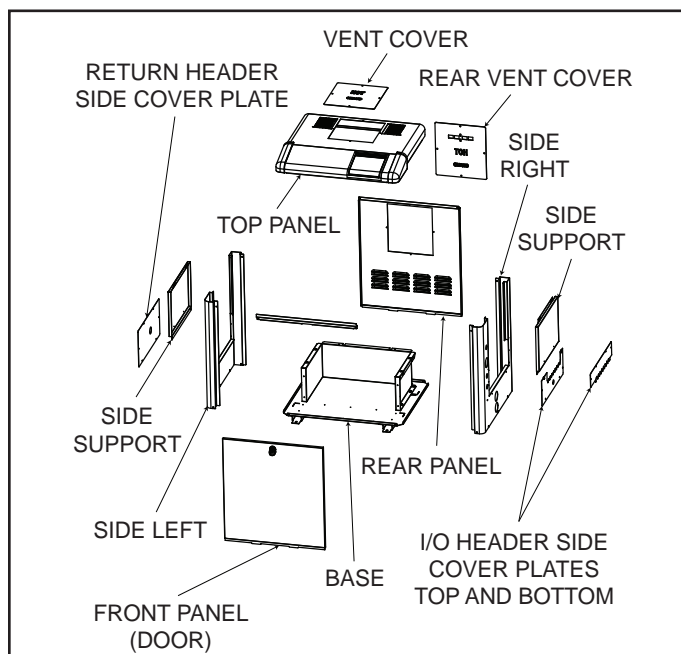

Figure 13. LXI Panel Identification
1. For an existing installation, drain the heater by removing the two (2) drain plugs on the inlet/outlet header and the drain plug on the return header.
3. Remove the I/O header side cover plates, top and bottom. See Figure 13.
4. Remove the return header side cover plate. See Figure 13.